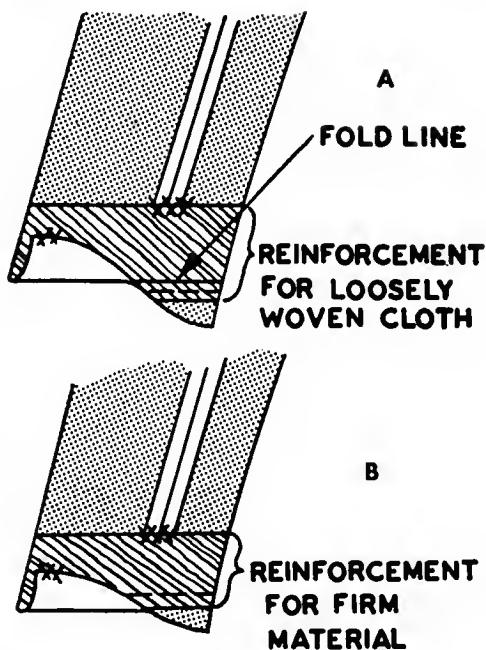

Fig. 215. Attaching the reinforcement.
- A. On loosely woven materials, extend the reinforcement  $\frac{1}{4}$  in. beyond the foldline (Fig. 215, a). In firm materials, bring the reinforcement just short of the foldline at the bottom (Fig. 215, b).